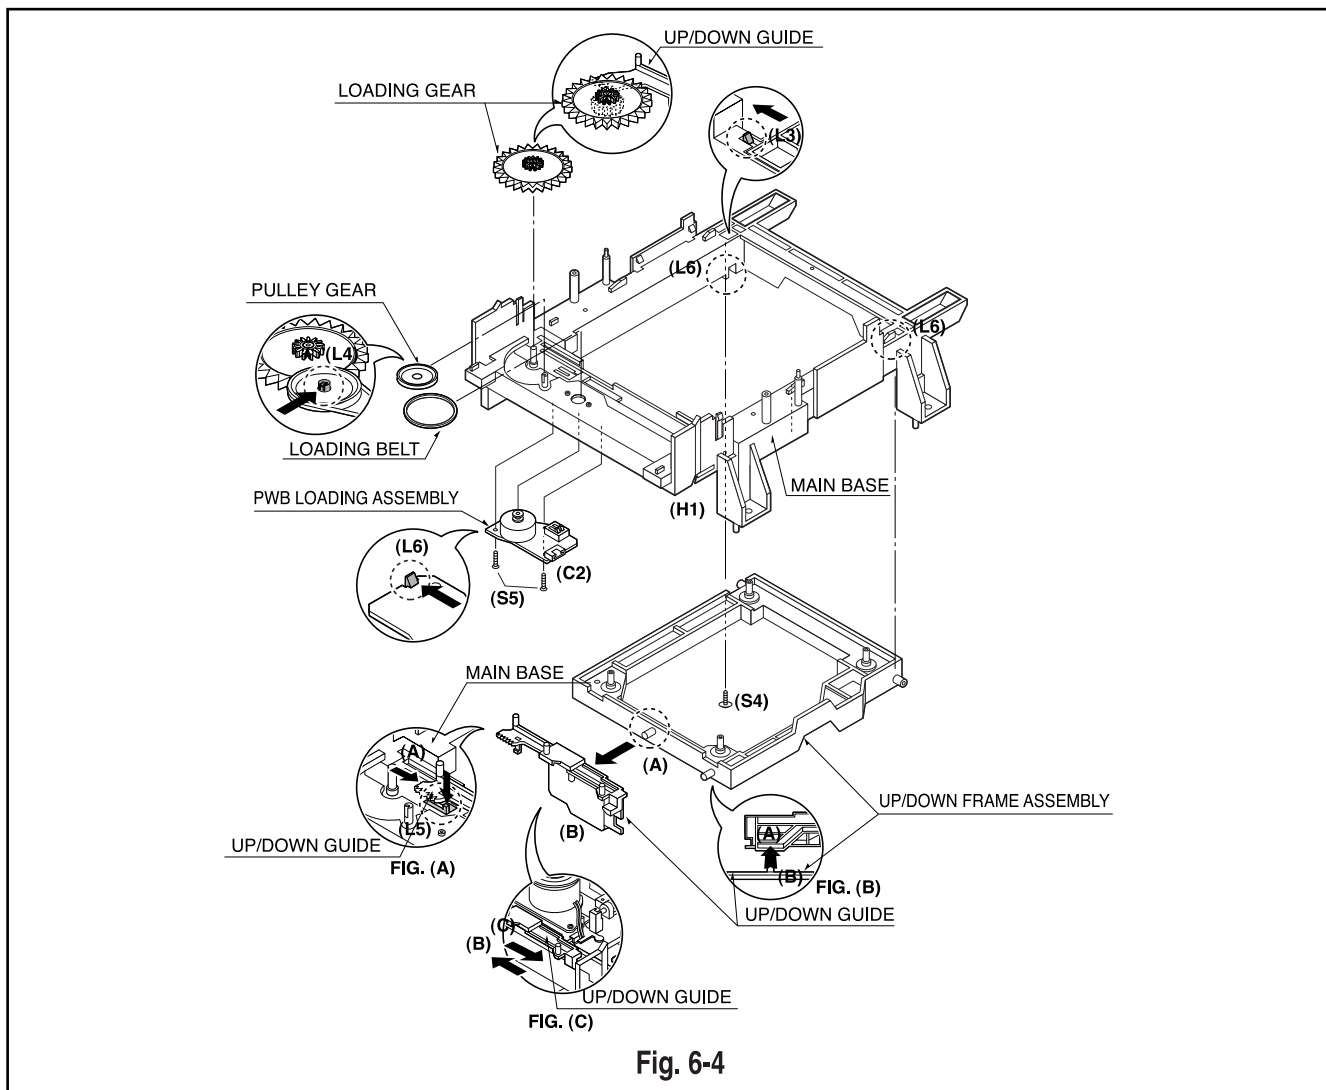

Fig. 6-4
5. Frame Assembly Up/Down (Fig. 6-4)
- When reassembling move the Guide Up/Down in direction of arrow(C) until it is positioned as Fig.(C).
- When reassembling insert (A) portion of the Frame Assembly Up/Down in the (B) portion of the Guide Up/Down as Fig.(B)
6. Belt Loading(Fig. 6-4)
7. Gear pulley (Fig. 6-4)
- 1) Unlock the Locking Tab(L4) in direction of arrow(B) and then separate the Gear Pulley from the Base Main.
8. Gear Loading (Fig. 6-4)
9. Guide Up/Down (Fig. 6-4)
10. PWB Assembly Loading (Fig. 6-4)
11. Base Main(Fig. 6-4)